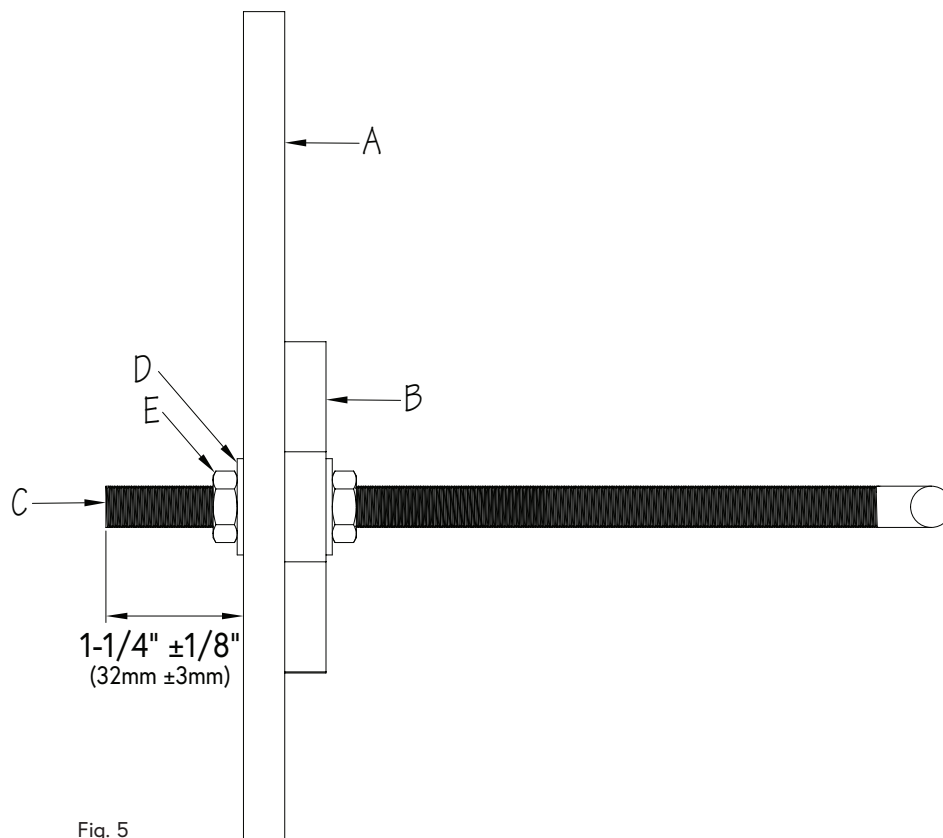

Fig. 5
4. From the backside of the pool wall (A), insert the rods into the mounting holes that were drilled, making sure the Washers (B) rest up against the wall. Adjust the lengths of the rods so that they protrude $1\text{-}1/4" \pm 1/8"$ ($32\text{mm} \pm 3\text{mm}$) into the pool (C). Install an additional Flat Washer (D) and Jam Nut (E) onto each rod from the inside of the pool to secure these assemblies to the pool wall (Fig. 5).